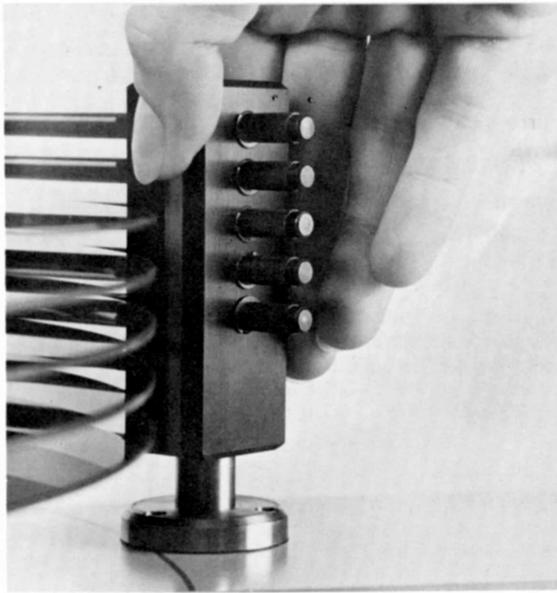

Figure 13.
1. Remove the comb and install the appropriate mirror assembly on the same pivot. Make sure the individual mirror surfaces are clean (see Figure 13).